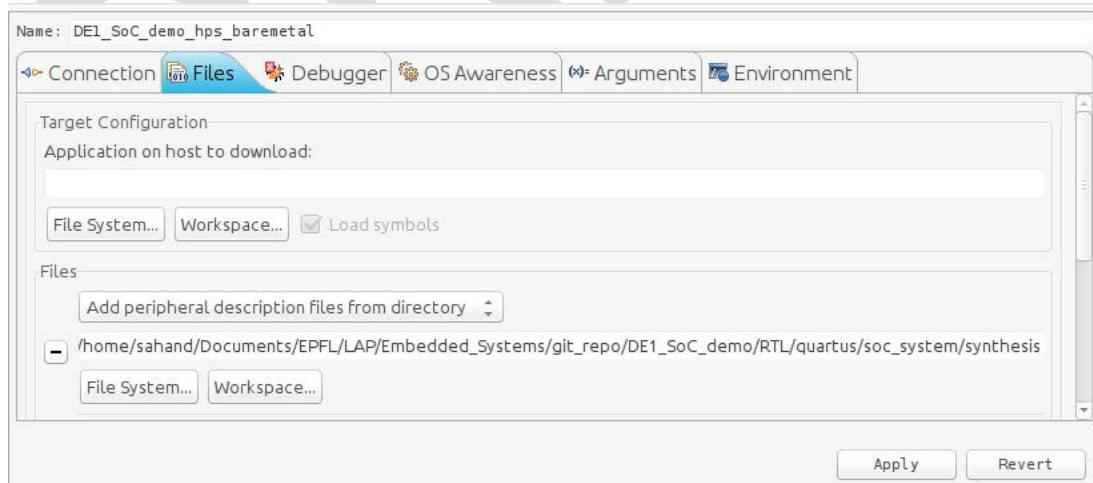

Figure 8-30. Debug Configuration "Files" Tab
- In 8.3.3.2, we configured our HPS to use some FPGA peripherals. We can instruct the debugger about this so it can show more detailed information when debugging. To do this, set the combobox to "Add peripheral description files from directory" and set it to the "DE1\_SoC\_demo/RTL/quartus/soc\_system/synthesis" directory, as shown in Figure 8-30. This directory contains a file called "soc\_system\_hps\_0.hps.svd" which has information on all of the HPS' peripherals which are in the FPGA fabric.